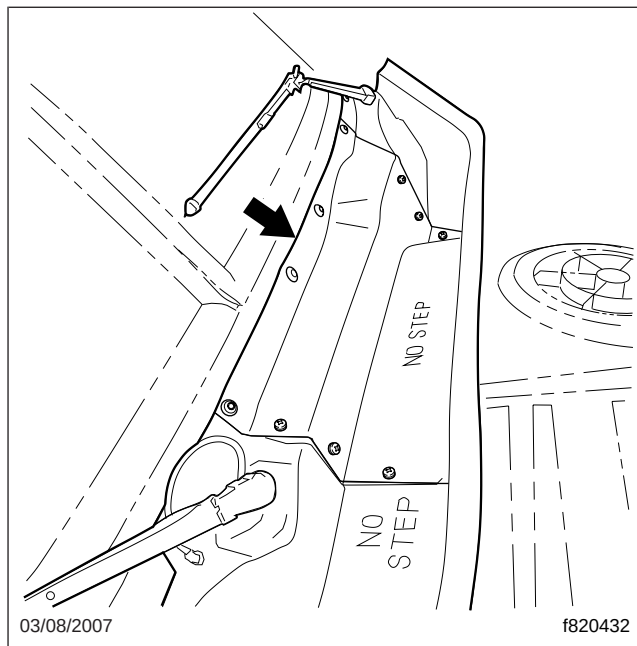

Fig. 1, Rain Tray, Center Section
4. Remove the center section of the rain tray by removing the fasteners that attach it to the windshield support and to the left-side and right-side sections of the rain tray; see Fig. 1.